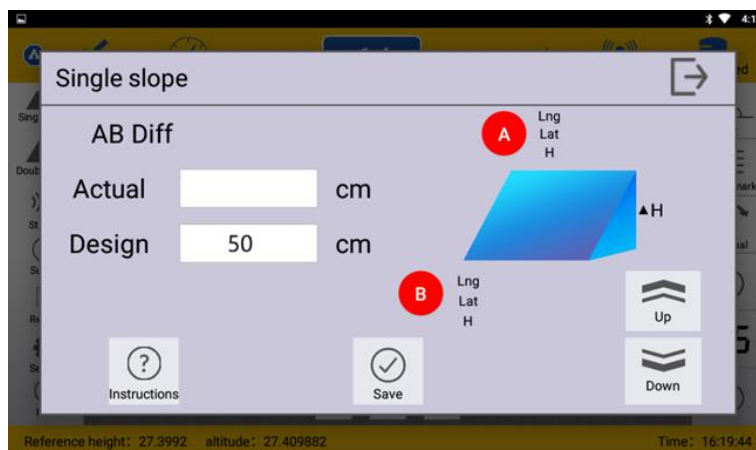

Figure 9
Step2. Enter the height difference between high point A and low point B on the interface, in centimeters. (Figure 9)